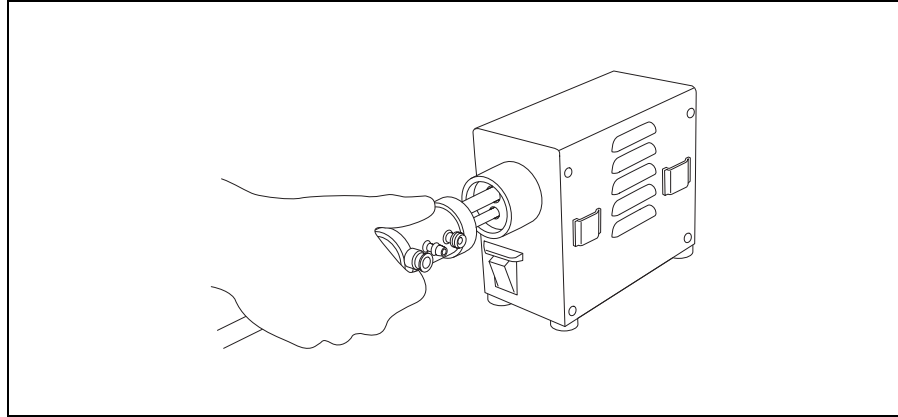

Figure 3.5
3. Insert the Light Guide Connector as far as it will go into the Output Socket on the front panel of the Maintenance Unit (see Figure 3.5).